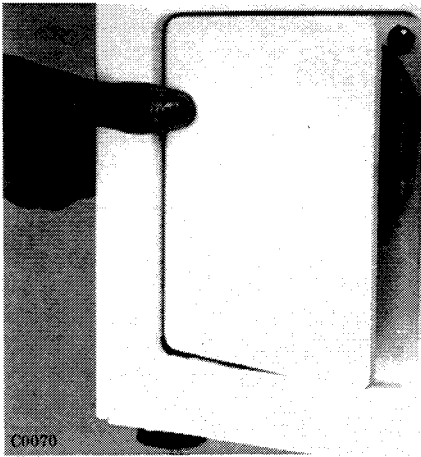

fig. 10
2. Open the flap door of the filter compartment by pressing it inwards with a finger at the hinged side (as shown in fig. 10).